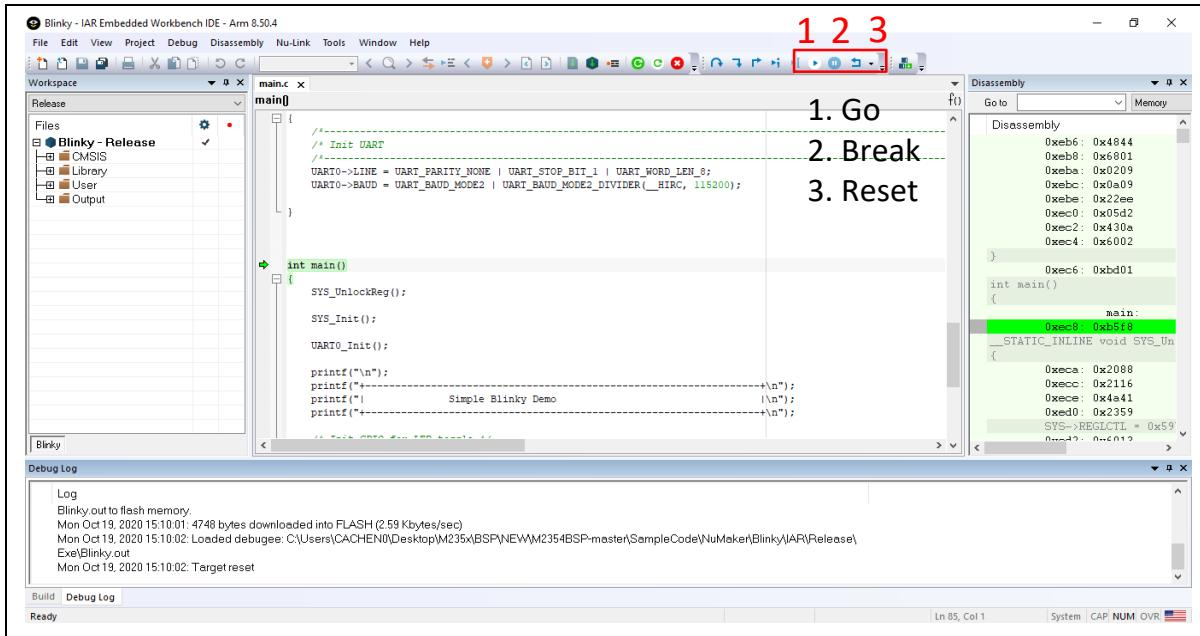
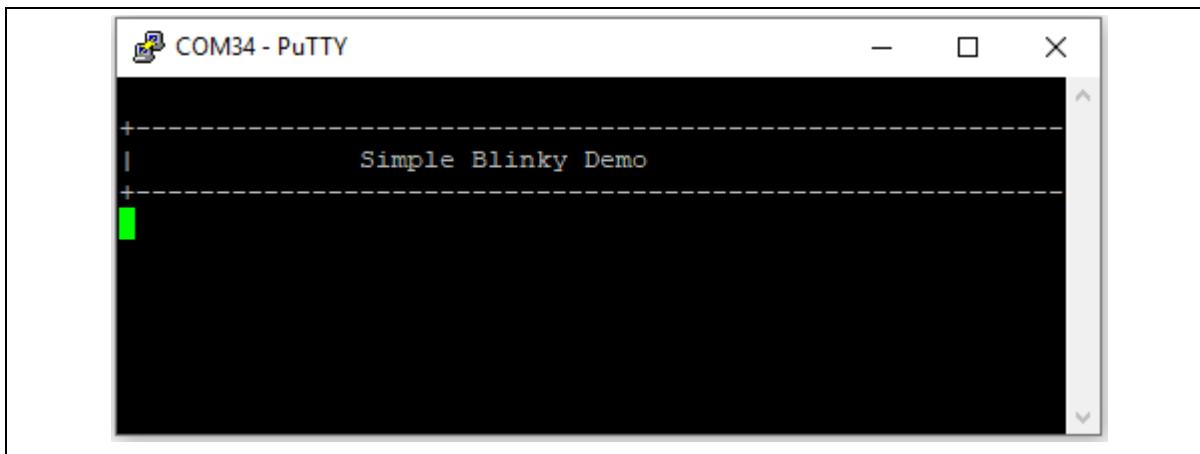

Figure 4-15 IAR EWARM Debug Mode
Figure 4-16 Debug Message on Serial Port Terminal Windows
4. Figure 4-15 shows the debug mode under IAR EWARN. Click “Go” and the debug message will be printed out as shown in Figure 4-16. The project can be debugged under debug mode by checking source code, assembly language, peripherals’ registers, and setting breakpoint, step run, value monitor, etc.